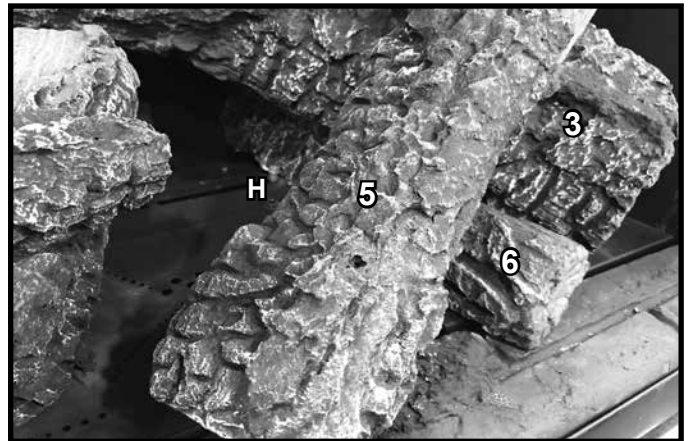

Figure 24. Log #6 Installed
**LOG #6:** Slide the burn out end of Log #6 between log #5 and log #3. Push the log back until it touches the firebox. The left side will touch pin H. The right side of the log touches Log #3. See Figures 24 and 25.